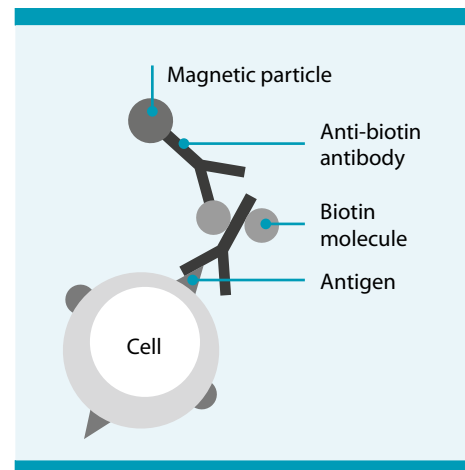

Figure 1.2: Flexible Labeling System
- Indirectly in a two-step labeling procedure called Flexible Labeling System. In a first step cells are labeled with antigen-specific antibodies conjugated to biotin. In a second step these antibodies are labeled with biotin-specific antibodies conjugated to super-paramagnetic iron-dextran beads (see Figure 1.2).